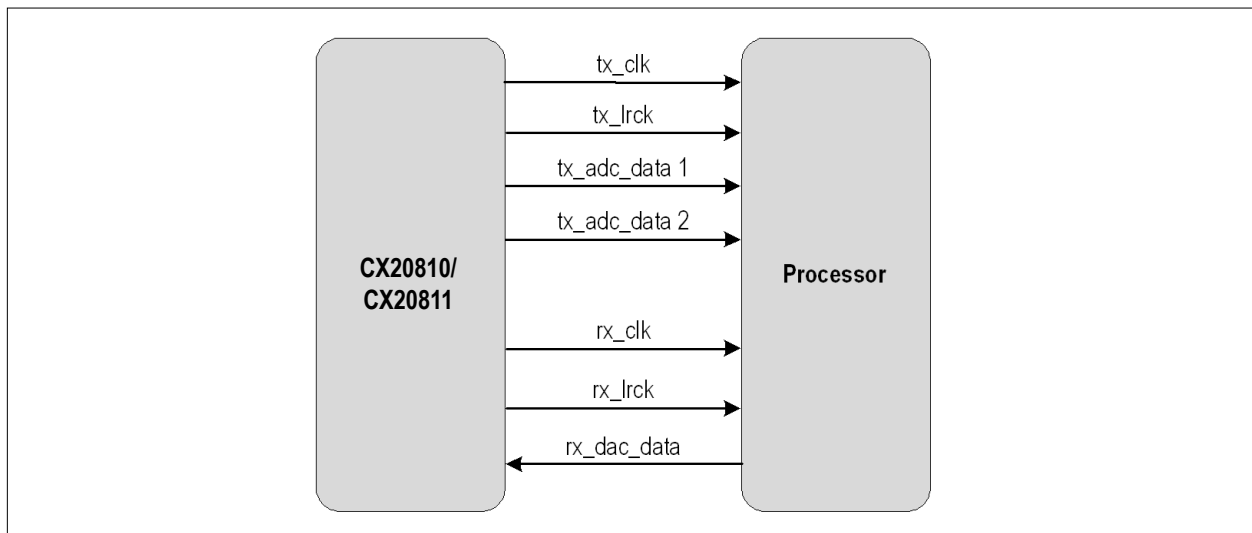

Figure 87: Seven-Wire Master Mode
- Figure 87 on page 167 provides the seven-wire master mode